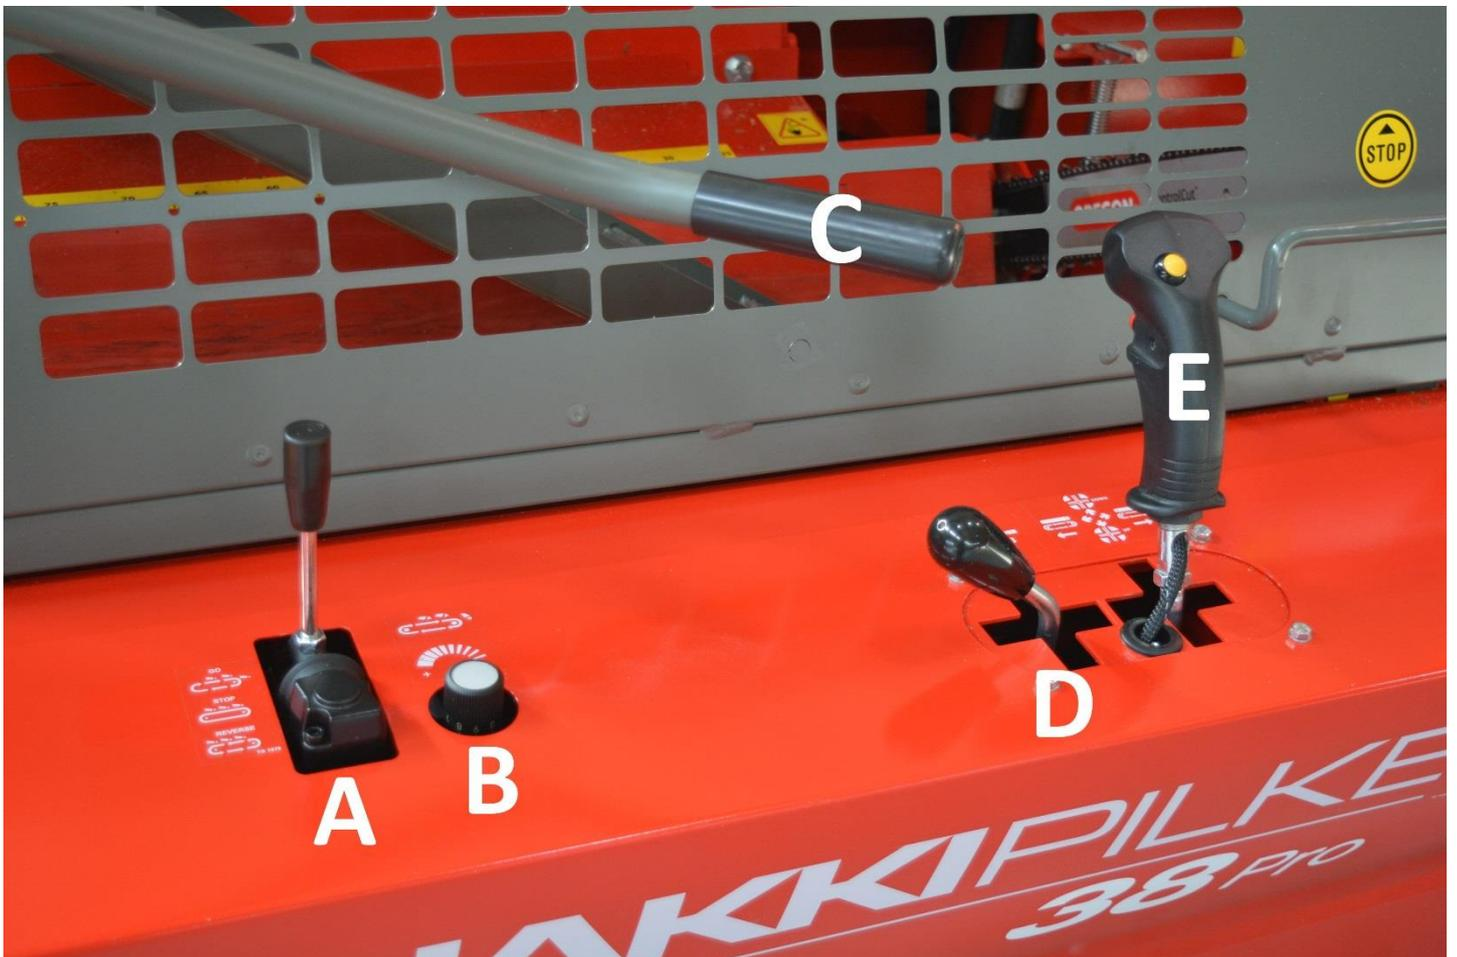

Figure 10. Controls
Operation of the controls in Figure 10
The Hakki Pilke 38 Pro firewood processor's out-feed conveyor belt is driven by a hydraulic motor. To change the speed of the belt, use adjuster B (Figure 10). The following describes how the conveyor can be turned laterally by using turning lever A and handle B:
If hydraulic turning of the conveyor (optional) is available, you can use control lever D (Figure 10) to swivel the conveyor laterally. In other words, **turning the lever forwards swivels the conveyor to the left, and turning the lever backwards swivels the conveyor to the right.**
The machine's splitting blade is controlled hydraulically with joystick E (Figure 10) (**forwards => blade is lowered, backwards => blade is raised**). Logs should always be as centred as possible when passing the blade in order to keep the size of the firewood consistent.
11. Conduct a test run for the in-feed conveyor's feed and reverse motion with joystick E (Figure 10).
12. Activate the out-feed conveyor using lever A (Figure 10) and adjust the conveyor speed to an appropriate level using control B (Figure 10). Also ensure that lever A stops and reverses the conveyor.
The in-feed conveyor feeds the wood into the firewood processor. Turn joystick E (Figure 10) to the right to feed wood into the machine. The feed can be reversed by turning the joystick to the left.
3. When the log stops at the mechanic measuring device for cutting, hold the log in place by placing more pressure on wood gripper lever C (Figure 10).